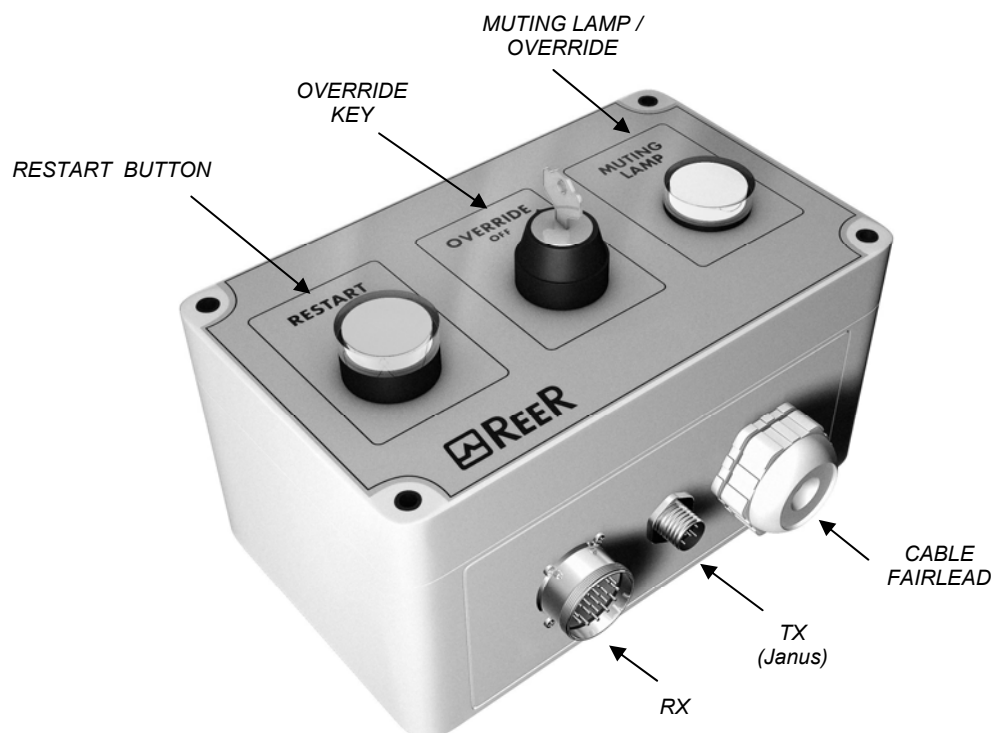

Figure 1 - MXJB1/MXJB3
- The light curtain must be connected (using the cables) to the respective connectors M23 and M12 (Fig. 1 and 2).